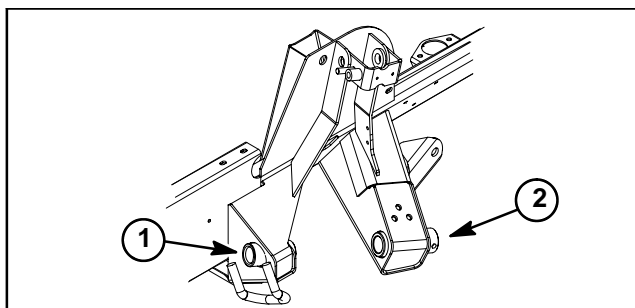

Figure 6
**NOTE:** There are not bushings in the frame to support the lift arm pivot shaft (item 8) because the shaft is fixed in place by a roll pin (item 15). The lift arm (item 1) and pivot hub (item 7) rotate on the pivot shaft and have bushings that can be serviced.
**NOTE:** Allowable clearance between lift arm pivot shaft (item 8) and front frame bore (Fig. 6) is up to 0.025" (0.64 mm). Allowable clearance between lift arm pivot shaft and rear frame bore is up to 0.070" (1.78 mm).